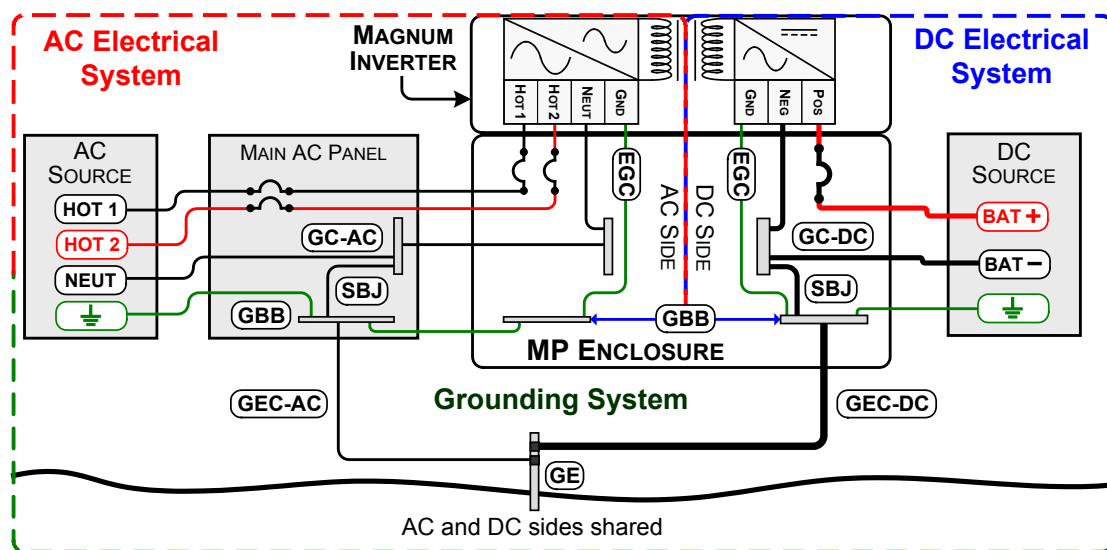

Figure 3-32, Multiple Connections to DC Ground Rod (Method 2)
2. Multiple Connections to Ground - Single Electrode (Method 2): When the AC and DC service panels are near each other, then the AC Grounding Electrode Conductor (GEC-AC) and DC Grounding Electrode Conductor (GEC-DC) can be connected to a single grounding electrode (see Figure 3-32). In this method — since there are multiple connections to the DC grounding electrode — the size of the DC grounding electrode conductor cannot be smaller than the largest conductor in the DC system (usually the battery-to-inverter cable).